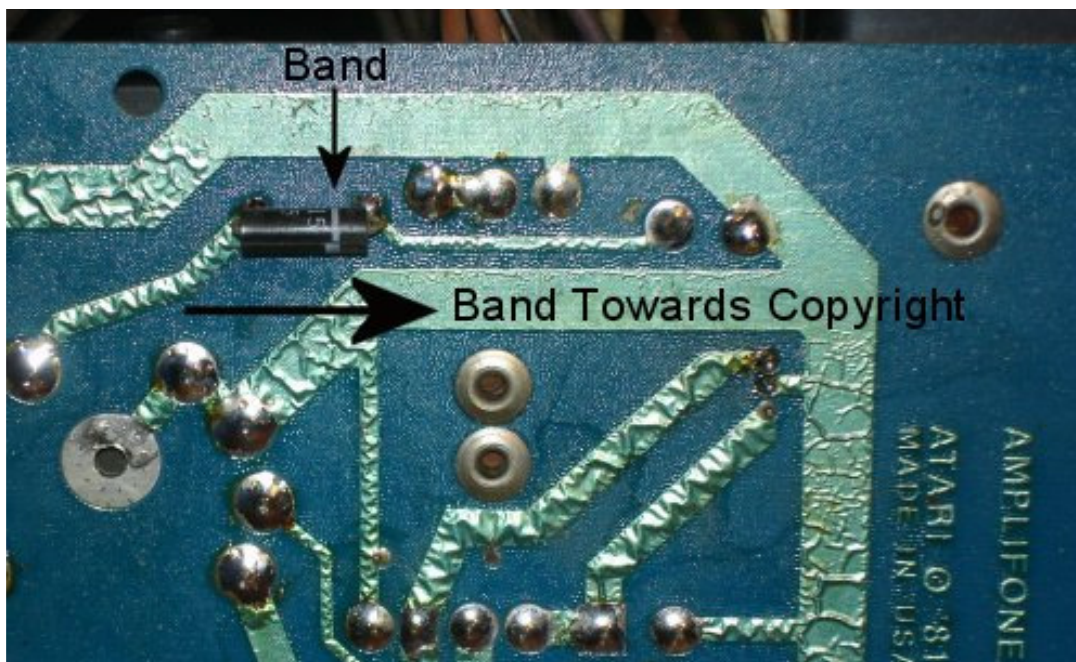

Figure 7: Diode CR3 Properly Installed
6. Turn the PCB over, and solder CR3 to the bottom of the PCB with the banded end facing the Atari copyright statement (towards the regulators). (See Figure 7)